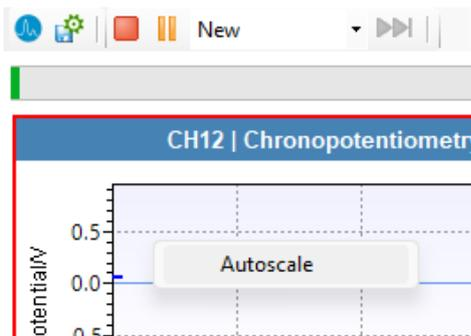

Figure 4 Autoscale on graph. The option appears with a right mouse click.
- Run the experiment on the WE_B channel and autoscale the plot to clearly visualize the ~50 mV response. Autoscale option appears with a right mouse click. See Figure 4.